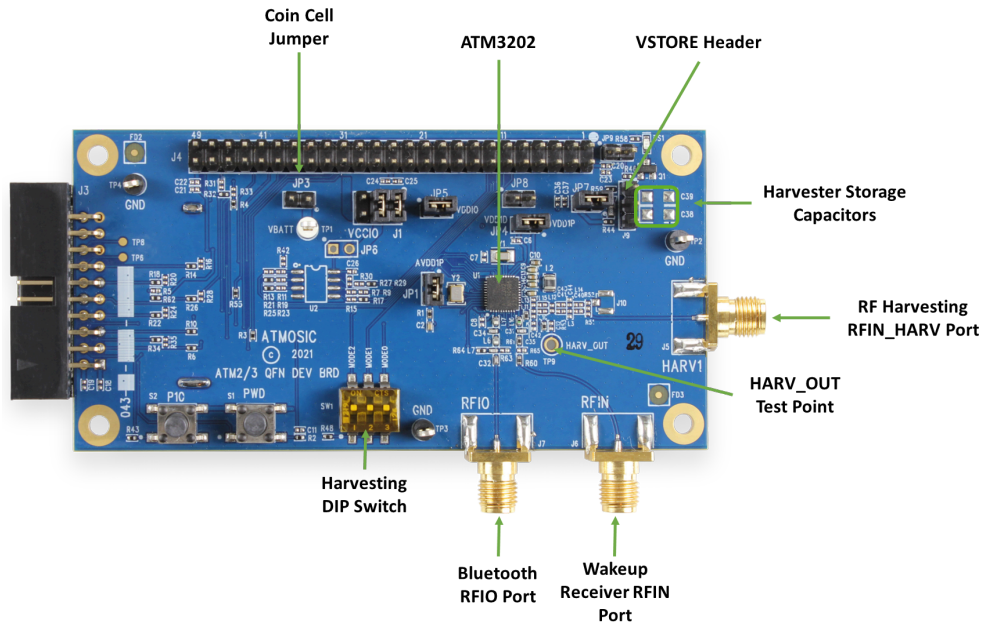
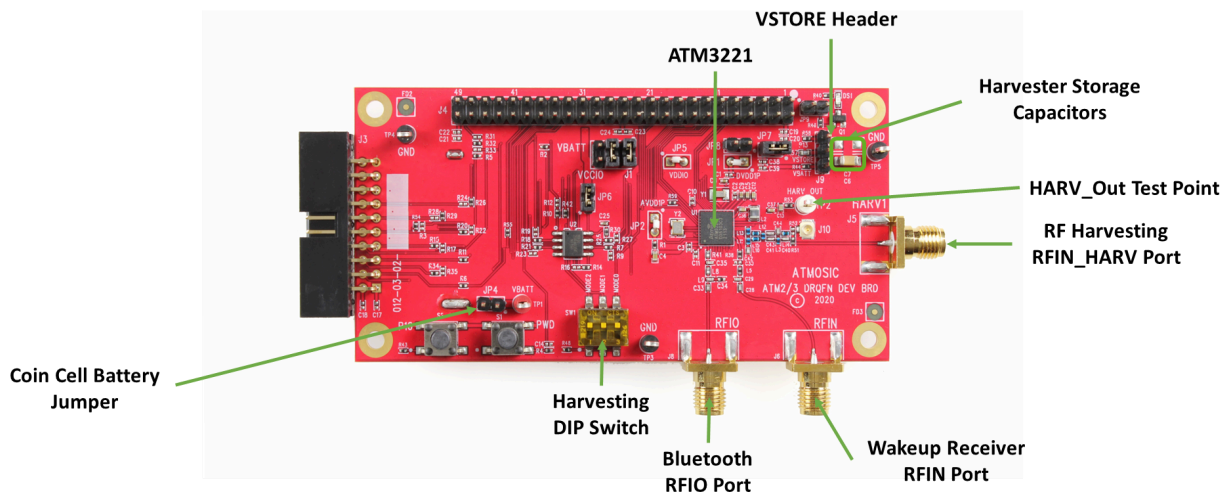

Figure 3 - ATM3202 EVB
Figure 4 - ATM3221 EVB
- Figure 3 - ATM3202 EVB
- Figure 4 - ATM3221 EVB
Figure 3 and Figure 4 show the locations of specific features needed to operate the ATM3202 and ATM3221 EVBs, respectively.